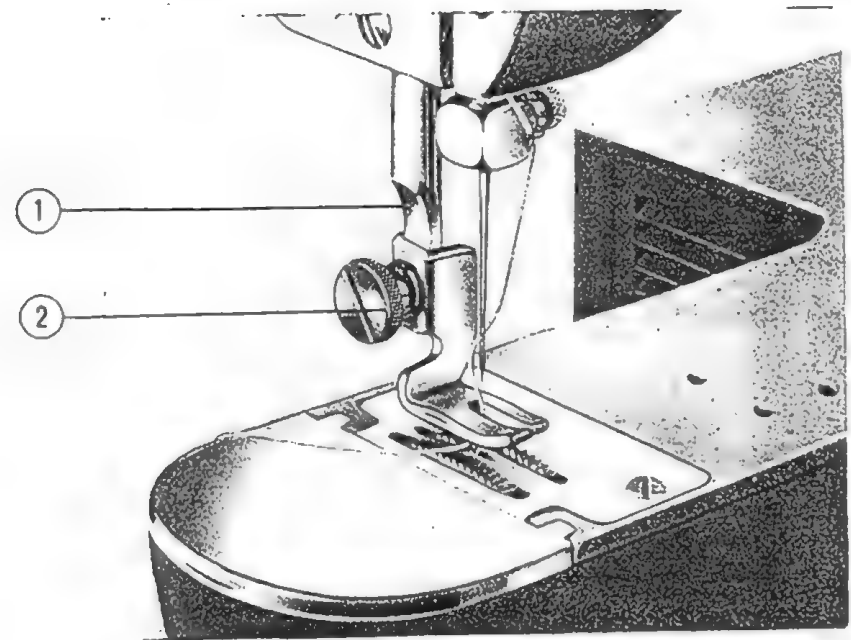

Fig. 17
After loosening the screw (2) the presser foot can be slid onto the cloth presser bar (1) (Fig. 17).
By loosening the screw (2) each attachment can be slid onto the cloth presser bar (1) (Fig. 17).